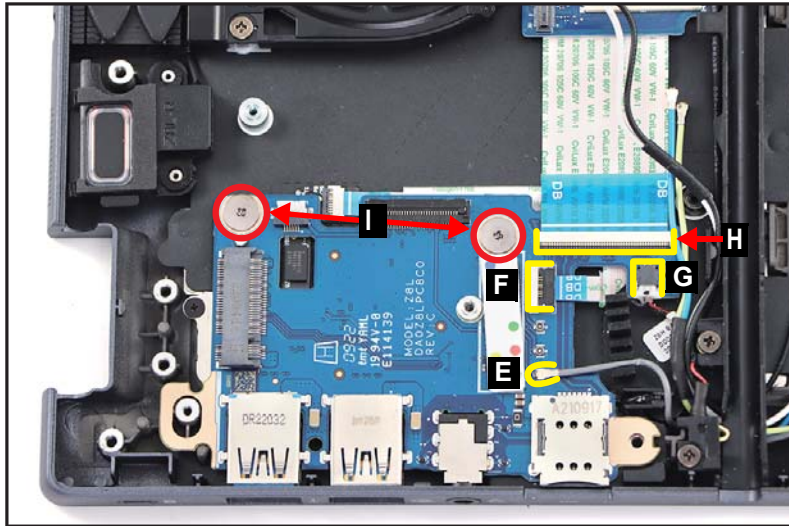

Figure 1-29. LTE Board Removal
3. Disconnect the P-sensor cable from the LTE board connector (E) (Figure 1-29).
4. Disconnect the fingerprint FFC from the LTE board connector (F) (Figure 1-29)
5. Disconnect the stylus charger cable from the LTE board connector (G) (Figure 1-29).
6. Disconnect the DB FFC from the LTE board connector (H) (Figure 1-29).
7. Remove two (2) screws (I) securing the LTE board (Figure 1-29).